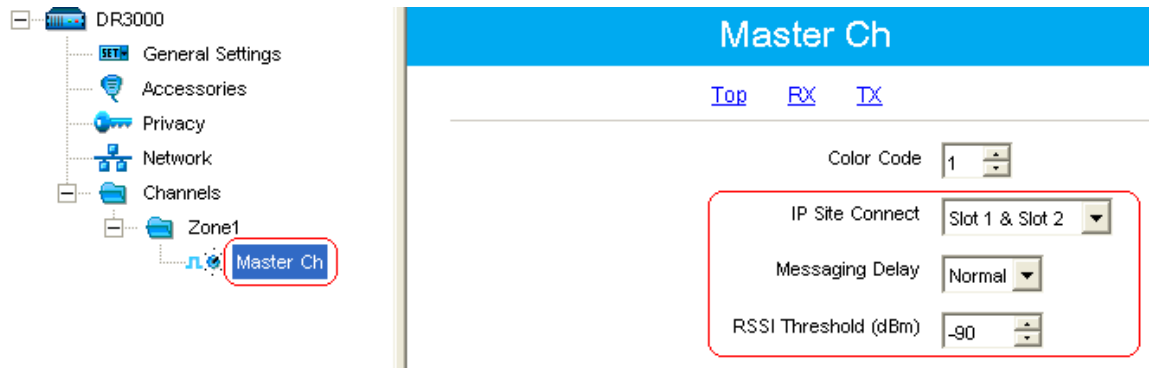

Figure 6.4
- 7) Navigate to each of the repeater channels where one or both of the slots are required to be 'Wide Area' and specify the IP Site Connect option. For the example shown in Figure 6.4 below, a single repeater channel is defined and both its slots are 'Wide Area'.
- 8) Leave the Messaging Delay at its default value of 'Normal' (see Figure 6.4 below).
- 9) If the Master repeater has a dedicated RF channel on which to operate (i.e. it is not sharing the channel with another system), then it's strongly recommended that the RSSI Threshold be increased from its default value of -115dBm to -90dBm (see Figure 6.4 below). For further details, refer to section 12.